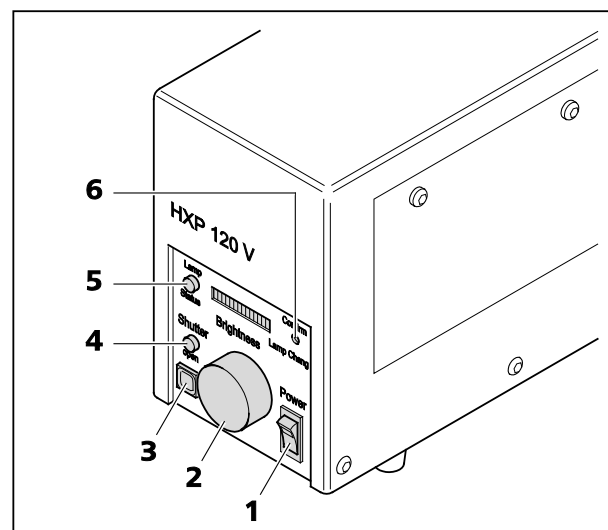

Fig. 3-10 Illumination system HXP 120 V, front
An external white light source (e.g. HXP 120 V, see Fig. 3-10) can be connected at the coupling position for liquid light guides as follows:
- the **Power** switch (Fig. 3-10/1),
- the **Brightness** turning knob (Fig. 3-10/2) with LED bar graph,
- the **Shutter** button (Fig. 3-10/3) with the **Shutter open** indicator (Fig. 3-10/4),
- the **Lamp Status** indicator (Fig. 3-10/5),
- and the **Confirm Lamp Change** button (Fig. 3-10/6).